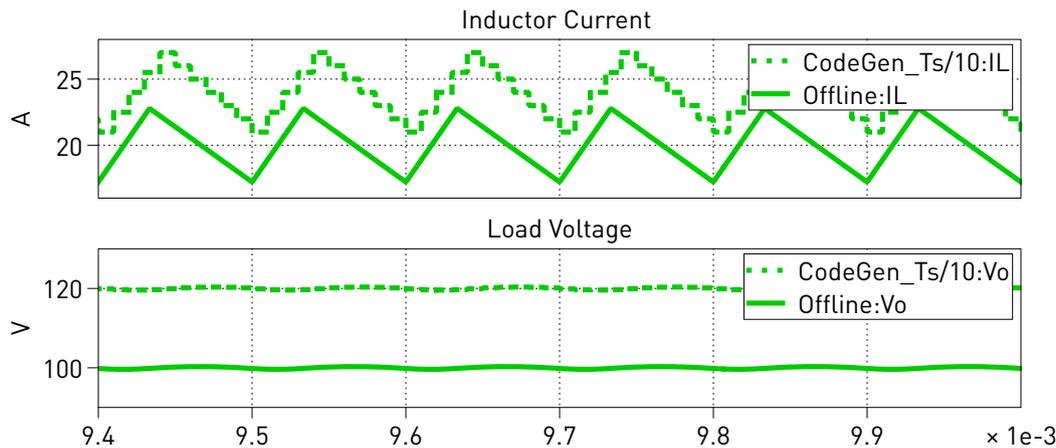

Figure 4: Current and voltage waveforms for the offline and CodeGen simulations using digital inputs
- 7 Rerun the CodeGen simulation with the following discretization times and save the traces: $20e-6$ s, $5e-6$ s, and $1e-6$ s. See Figure 4 for a comparison between the steady state